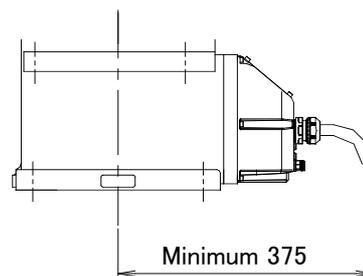

Fig.2-33 : Fixing the flexible cable
- (1) Connect the connector to the robot arm.
- (2) Wind the silicon rubber around the cable at a position 300 to 400 mm from the side of robot arm and controller as shown in Fig. 2-33, and fix with the nylon clamp to protect the cable from external stress.